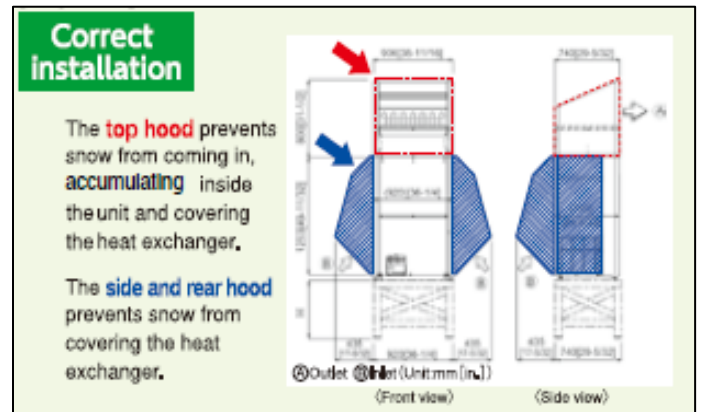

Figure 4: Snow Hood
- Use snow protection hoods as necessary (**as per figure 4 below**). Snow hoods prevent snow accumulation inside and outside the outdoor unit which will cover the heat exchanger.